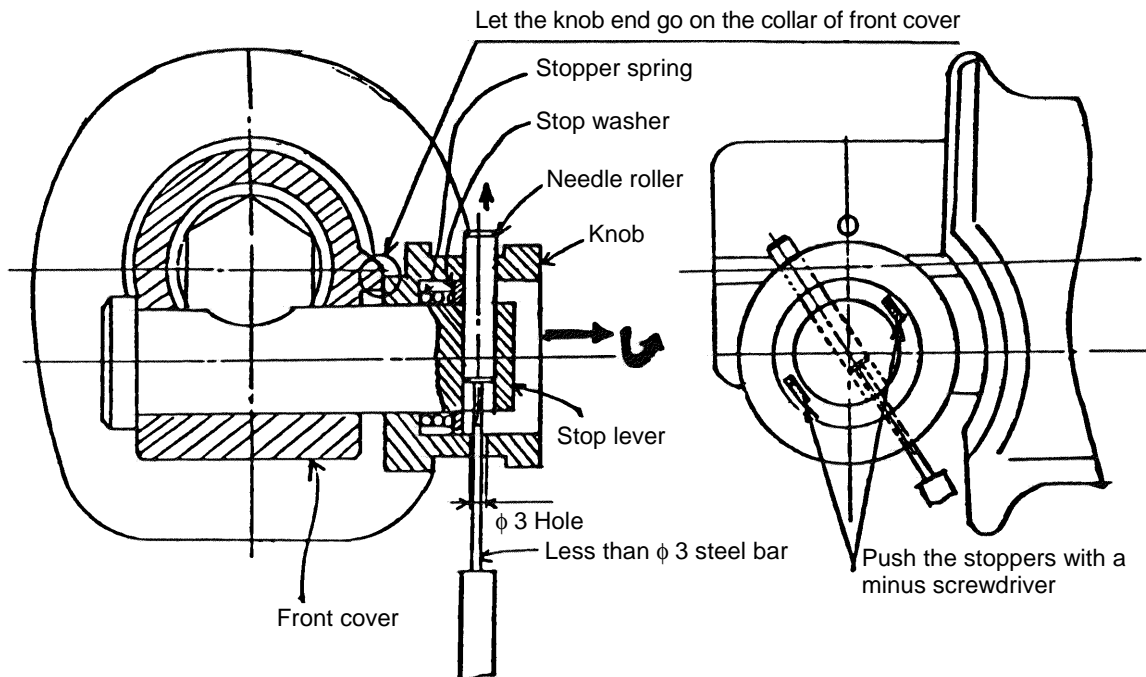

Fig. 7
Disassembly procedures are illustrated in Fig. 7 above. Pull Knob (A) ③ in the direction indicated by the arrow, turn it slightly, and release it against the collar end of the Front Cover ③⑤. Then, push in the Stop Washer ① with a minus-head screwdriver or the like to compress the Stopper Spring ②, and insert a less than $\phi 3$ steel bar into the knob hole to push out the Needle Roller ④. The Stop Lever ⑤, Stop Washer ①, and Stopper Spring ② can then be removed.
As illustrated in Fig. 7 above, place Knob (A) on the collar of the Front Cover, push in the Stop Washer ① with a minus-head screwdriver or the like to compress the Stopper Spring ②, align the matching holes of Knob (A) ③ and the Stop Lever ⑤, and insert the Needle Roller ④.